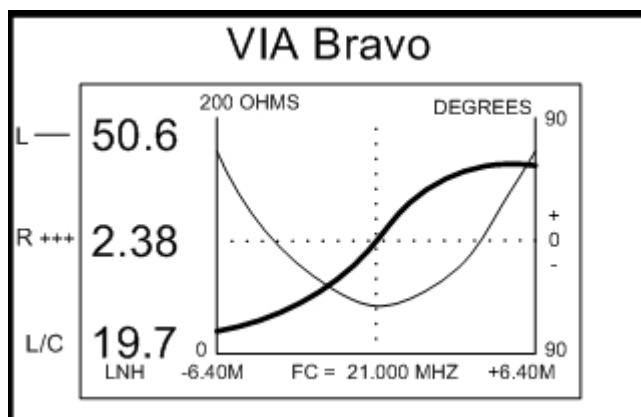
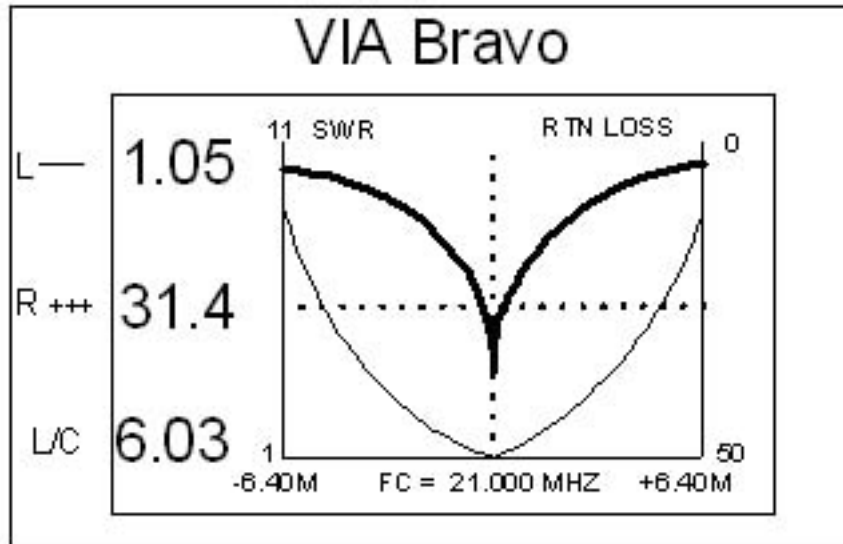

Figure 2
Figure 3
Vector Impedance Measurements Most antenna systems are 50 Ohms. This includes the output impedance of the transceiver, the impedance of the feeder cable, and the impedance of the antenna. An antenna is resonant at the frequency(s) where the Impedance (Phase) Angle is equal to zero (0). Refer to the system or radio specifications for operating requirements. The antenna Impedance should be at or near the manufacturer's specification (usually 50 Ohms) across the frequency band of interest. See Figure 2.
In Figure 2, Impedance is on the Left Plot and Impedance (Phase) Angle is on the Right Plot (thick line). The center is set at the resonant frequency (FC) of the antenna at 21 MHz, and the Sweep Range is set at 12.80 MHz (6.40 MHz below FC and 6.40 MHz above FC). The Impedance (Z) of the device under test is 50.6 Ohms at the center frequency, and the Impedance (Phase) Angle is 2.38 degrees at the center frequency. This Impedance Angle reading means that the device is inductive rather than capacitive at the center frequency. A negative Impedance Angle reading would identify the device as being capacitive. The L/C reading of 19.7 nH (nano-henry) is the device's inductive measurement at the resonant frequency. Depending on the system specifications, these reading may be perfectly acceptable.
to measure antennas because the SWR meters were so much cheaper than vector (non-scalar) measuring systems. Although SWR measurements are useful in testing antennas, the Vector Impedance readings provide the most information for testing antennas, cables, and electrical devices because SWR and Return Loss do not show where the antenna is resonant. See Figure 3 for an example of the of the SWR plot.
In the Figure 3, the SWR, on the left plot, is 1.05:1. In this example, the minimum SWR occurs at the resonant frequency (same antenna shown in Figure 2), but this will not hold true for most cases. The Return Loss, on the right plot (thick line), is 31.4 db. L/C is the Q measurement, which is 6.03. It should be noted that SWR and Return Loss have a direct relationship. The center frequency and sweep width are the same as in Figure 2. Refer to the manufacturer's specifications for SWR and Return Loss requirements for each antenna.